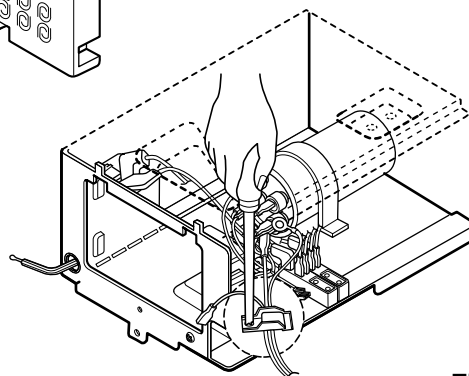

Figure 25
5. Remove a screw which fastens the clip cord. (See Figure 25)